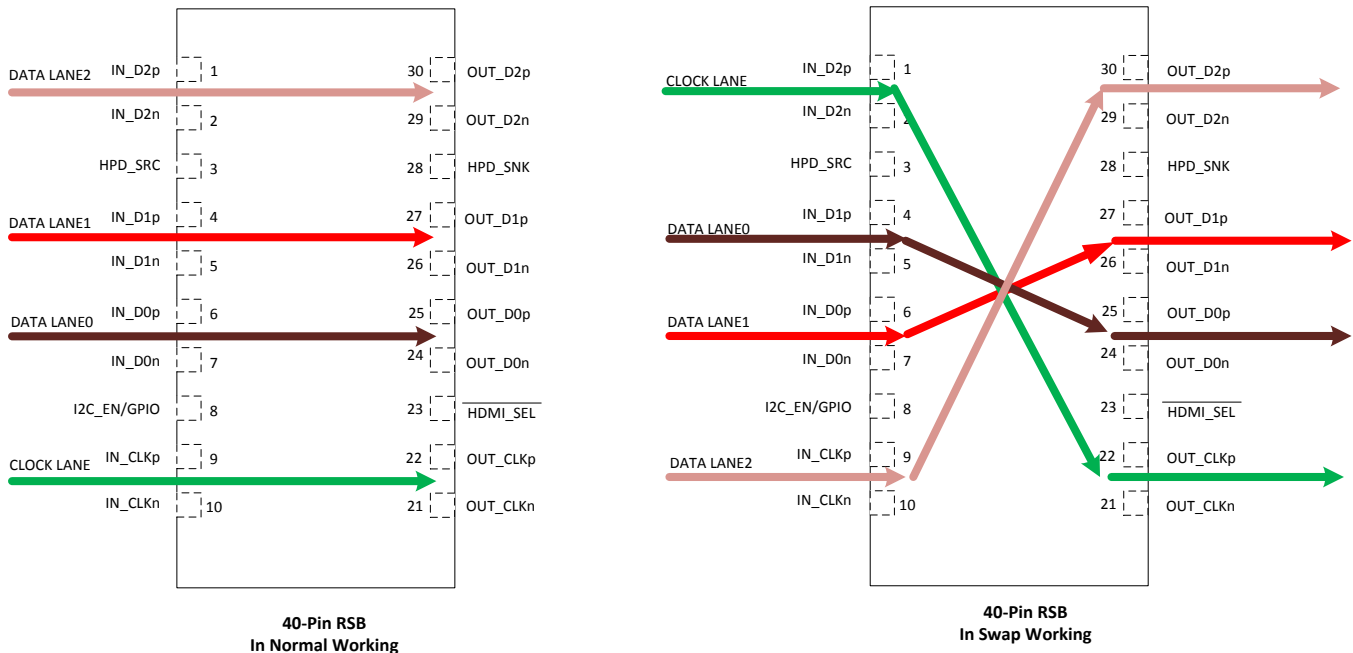

图 23. SNx5DP149 Swap Function for 40 Pins
(1) The output lanes never change. Only the input lanes change. See and 图 23.